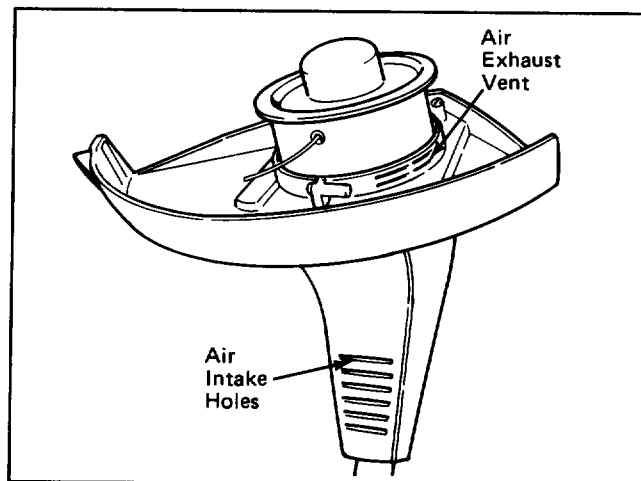

Figure 23
4. Air exhaust vent is located on underside of shield (Fig. 23). Scrape vent clean regularly.
5. Wipe debris away from air intake holes in motor housing (Fig. 23).